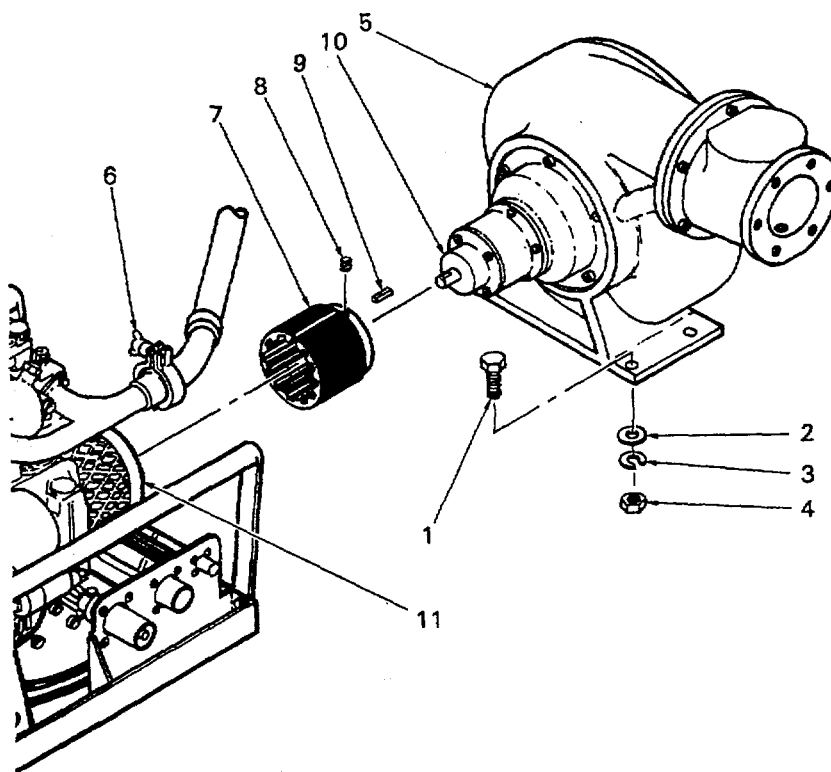

Figure 4-9. Fuel Transfer Pump Replacement
4.12.1 Replace Fuel Transfer Pump. (Refer to figure 4-9.)